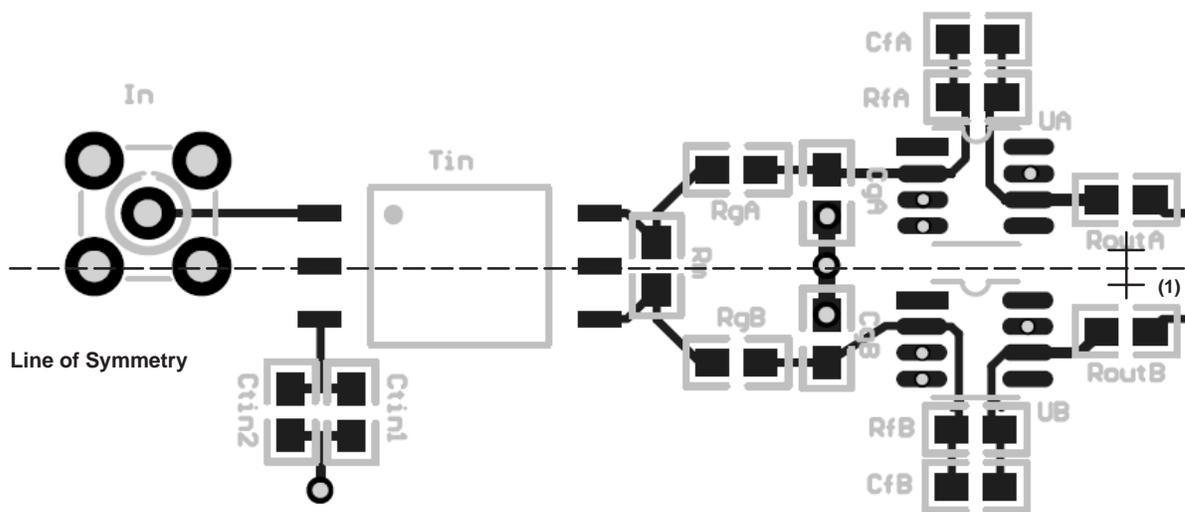
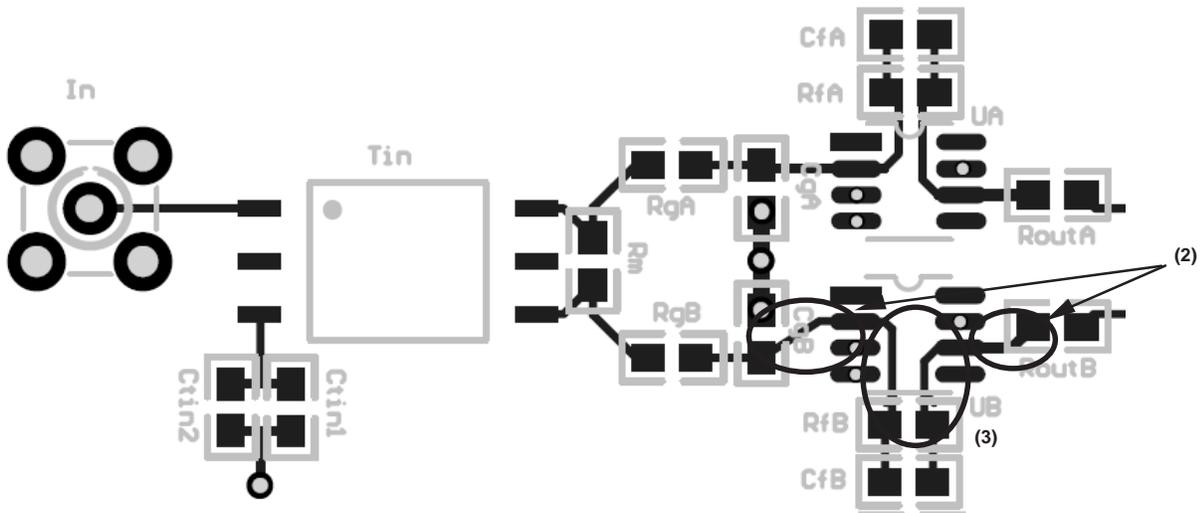
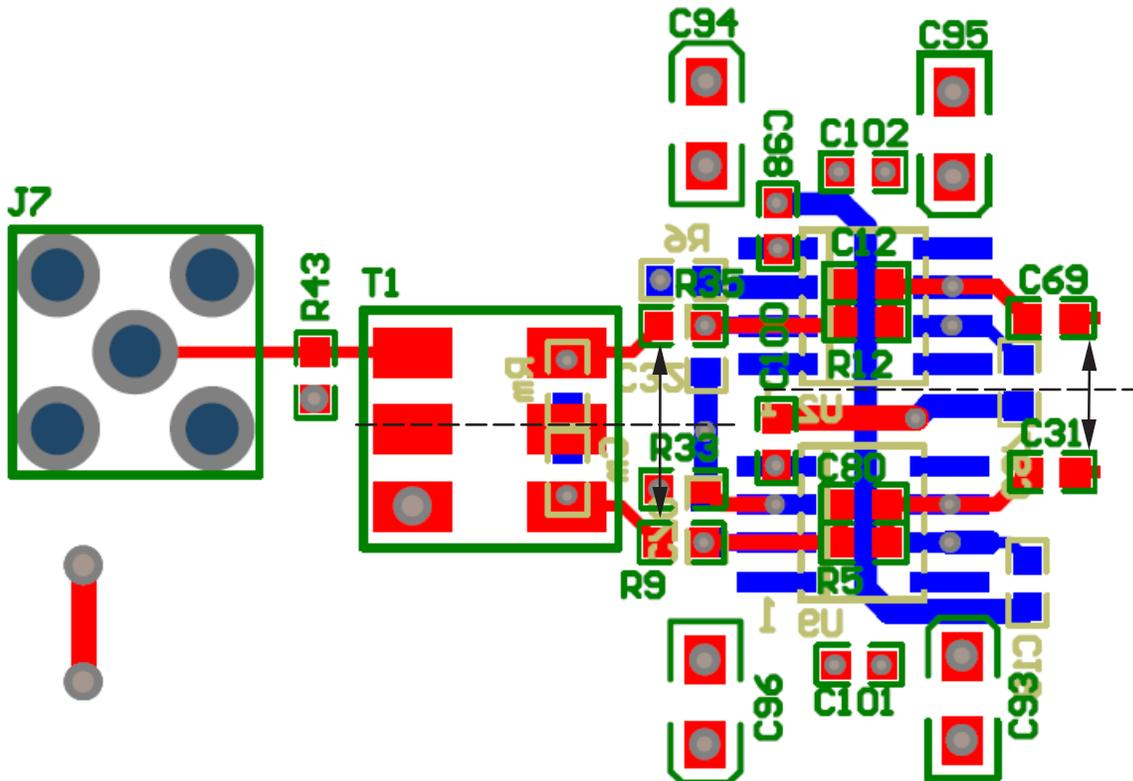

Figure 2. Component Symmetry Strategy, Line of Symmetry
Figure 3. Component Symmetry Strategy, Unmatched Traces
Figure 4. Signal Path Symmetry Strategy
Figure 2 shows an example of component symmetry.
In Figure 2, the example components have been placed according to a component symmetry strategy. The line of symmetry here is defined as passing through the middle of the transformer (T_{IN}). Consequently, the output resistors [R_{OUTA} , R_{OUTB} – see (1)] are equidistant from the line of symmetry. Although this approach is pleasing to the eye, there is still a difference in the signal path to accommodate the amplifier's pinout. In an SOIC-8 package, for example, the output pin is typically pin 6. Thus, the distance from pin 6 for UA to the center is different than the distance to the center from UB. This difference must be compensated for by the use of longer traces. Unmatched traces from path A and path B are shown in Figure 3.
Figure 4 shows a signal path symmetry strategy. Notice that trace length from pad to pad is the same for both the top path and the bottom path.
There are also two distinct lines of symmetry: one on the driver input, and one on the driver output. The SOIC-8 footprints are symmetrical to the input line of symmetry. This characteristic eliminates the mismatch shown as (2) in Figure 3.
The layout shown in Figure 4 is noticeably much more compact than that of Figure 2. This compact layout is a result of the choice of 0603-size components in place of 1206-size parts. Furthermore, using 0603-size components allowed the feedback components R_{FA} , C_{FA} , R_{FB} , and C_{FB} (renamed in the design shown in Figure 4 as R_{12} , C_{12} , R_5 , and C_{80} , respectively) to be placed on one side of the board with the op-amp directly on the other side, avoiding vias and parasitic coupling between the feedback component pads and the non-inverting input of the operational amplifier (pin 3 of the SOIC-8). This smaller size also minimized the output trace length back to the inverting input and eliminated the mismatch shown as (3) in Figure 3.